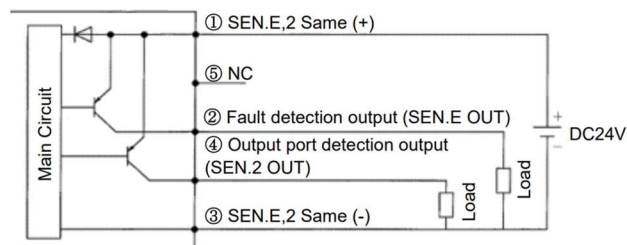
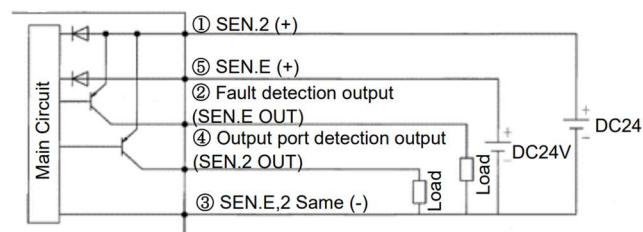

Fig. 10. Pressure sensor electric circuit diagram
Fig. 12. Pressure sensor electric circuit diagram
- Fig. 10 to Fig. 12 show diagrams of the pressure sensor electric circuits of this product. Be careful about the allowable voltage fluctuation since a voltage drop of about 1 V occurs due to a transistor. For the power consumption and allowable voltage fluctuation, refer to the catalog.